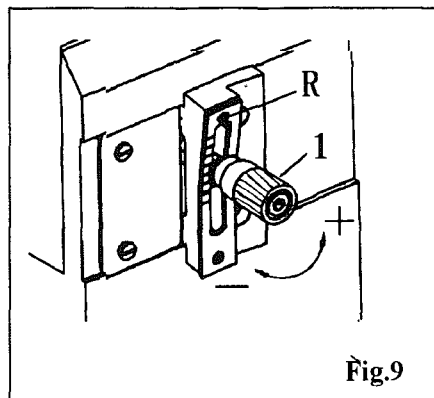

Fig.9
6. STITCH LENGTH ADJUSTING LEVER / REVERSE SEWING (Fig.9)